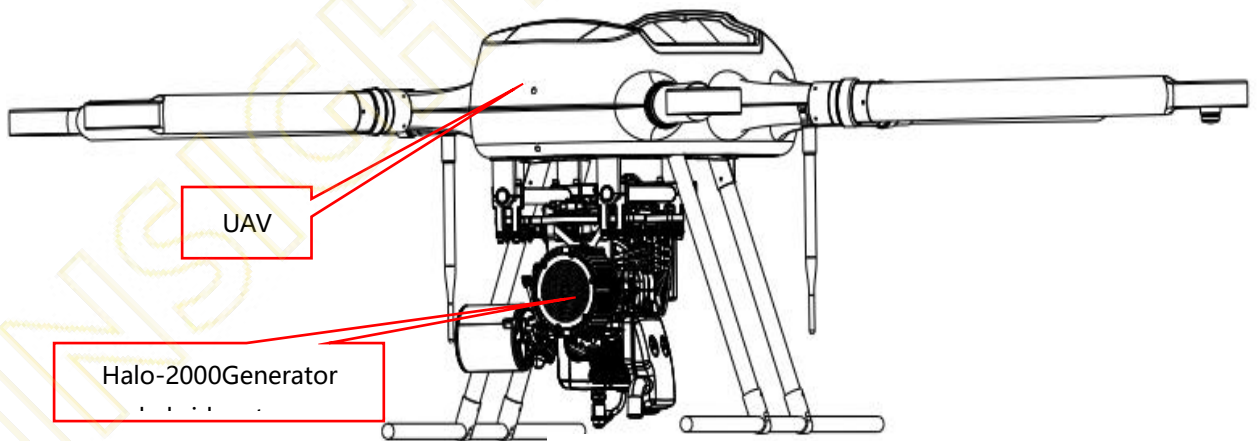

Fig 5
5.3.1 Install the hybrid system to the appropriate position of UAV, and the default is hoisting as shown in Figure 5 below: